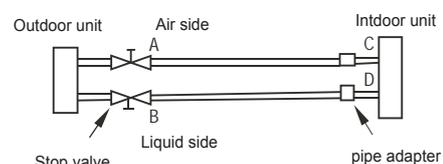
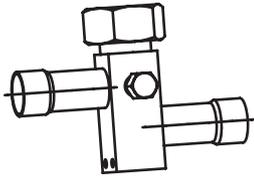

Fig.6-2
Fig. 6-3
- Use the refrigerant in the outdoor unit to expel air(see Fig.6-2 and Fig.6-3)
- Use refrigerant tank to expel air (see Fig.6-2 and Fig.6-3)